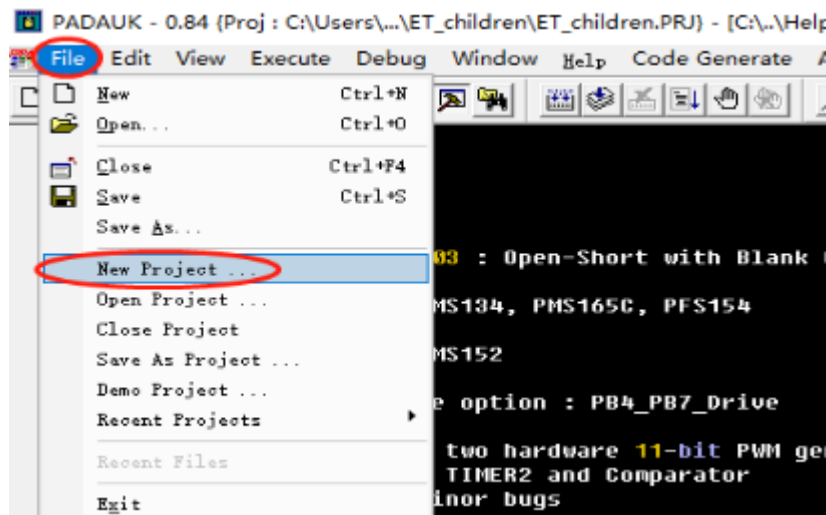

Fig. 3-14 Build a new project
1. Build a new project from the menu. As shown in figure 3-14.